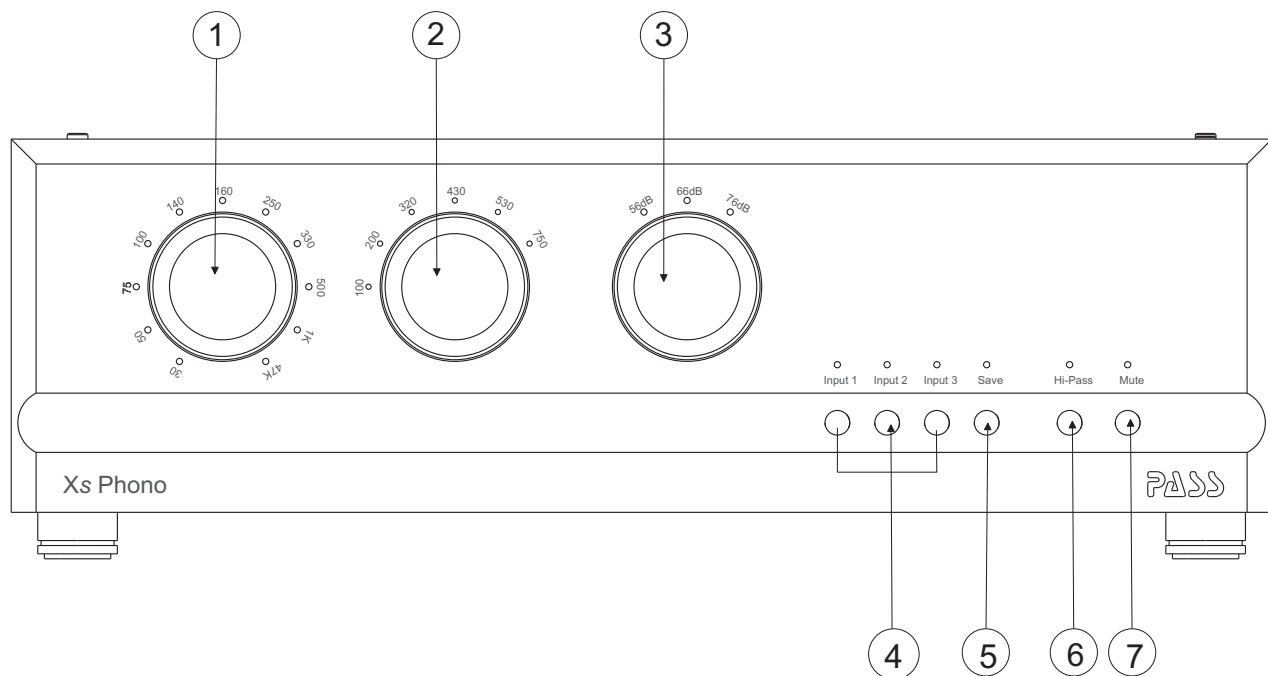

Figure 1.
5) WAIT, it takes upwards of a minute for the system to come up and perform various housekeeping functions. When ready, the mute LED will go out. (FIG 1, #7)
a) Select an input (FIG 1, #4)
b) Select Gain (FIG 1, #3)
c) Select Resistive Load (FIG 1, #1)
d) Select a Capacitive Load (FIG1, #2)
When you're done, select "save" from the front panel (FIG 1, #5)